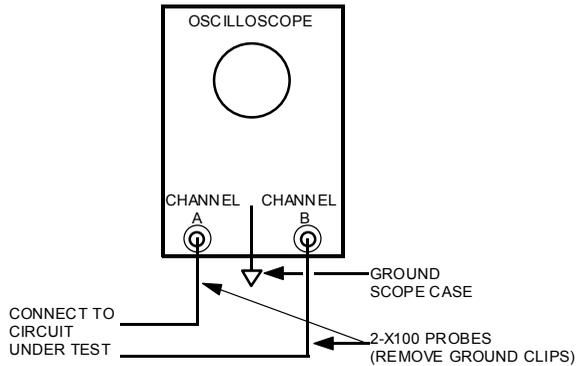

Figure 1: Oscilloscope Connections
3. When using an oscilloscope to make measurements in the power circuits, use the connections shown in Figure 1 and the procedures described in step 4. Failure to follow this procedure could result in the case of the oscilloscope being at line potential. Only qualified personnel should be allowed to use the oscilloscope and other test equipment.
4. Referring to Figure 1 set the oscilloscope to add channels A & B, and invert channel B. Before making measurements, connect both probes together and set the "zero" line. This connection allows the oscilloscope case to be connected to ground for safe operation.